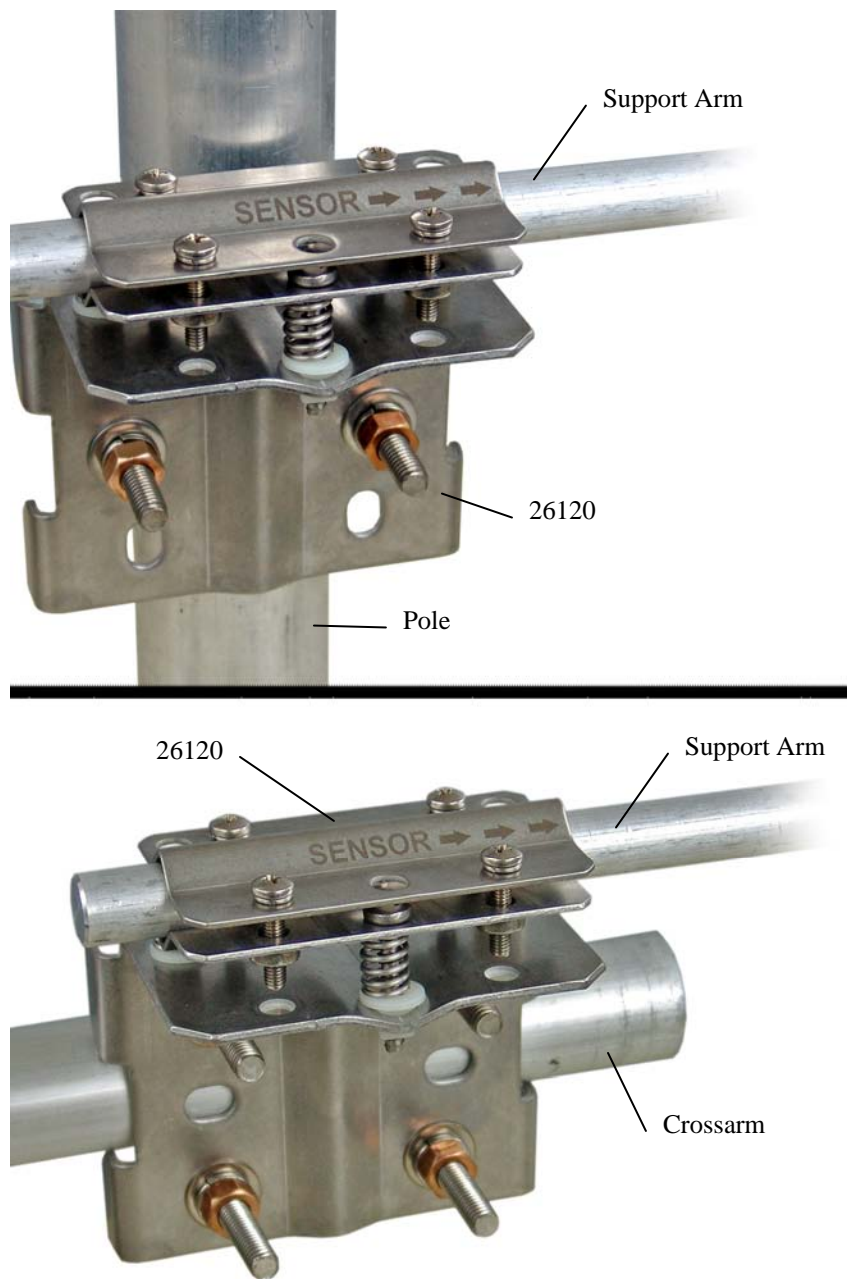

FIGURE 6. Mounting the NR-LITE onto a pole (top) and crossarm (bottom) via the 26120 Mounting Kit.
1. Attach the 26120 mounting bracket to the vertical mounting pipe, or CM200-series crossarm using the u-bolt provided (see Figure 6).
2. Insert the sensor's support arm into the mounting block of the mounting bracket kit. Make sure the sensor points in the direction of the arrows that appear after the word "SENSOR" on top of the bracket (see Figure 6). Perform a coarse leveling of the sensor using the sensor's bubble level. Tighten the four screws on top of the mounting bracket to properly secure the support arm so that it does not rotate.